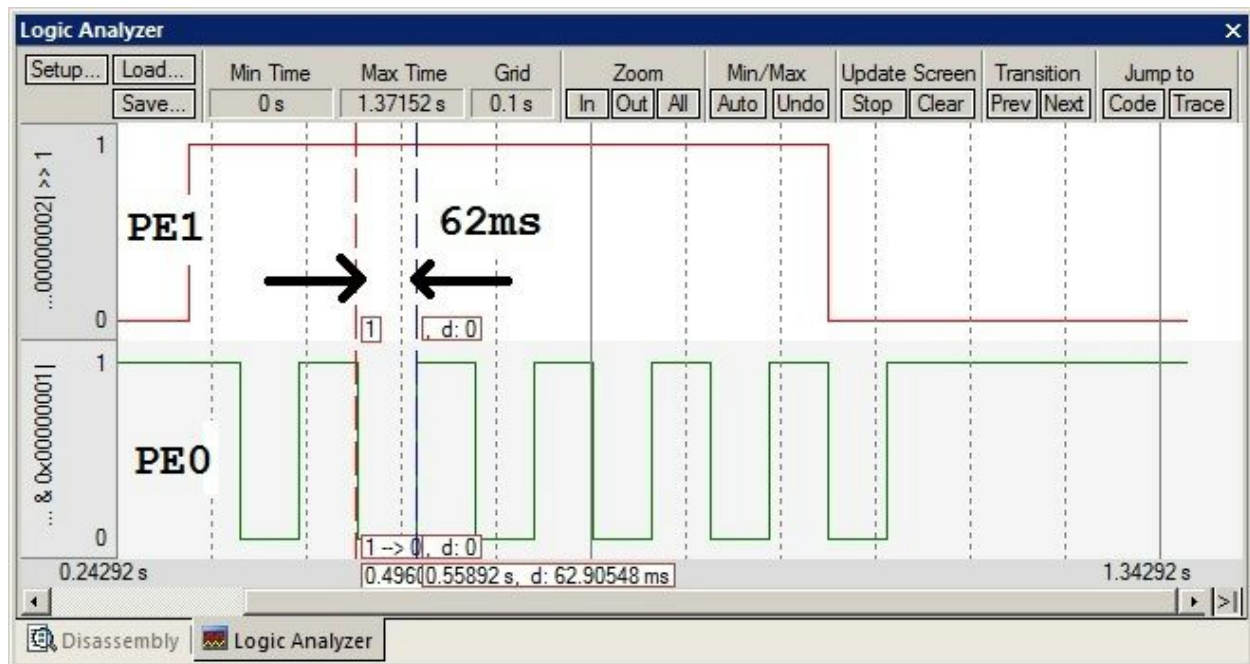

Figure 3.9. Simulation of Lab 3, showing PE1 high, and the PE0 output toggling at 8 Hz.
3. Screenshot like Figure 3.9 showing your debugging in the simulator